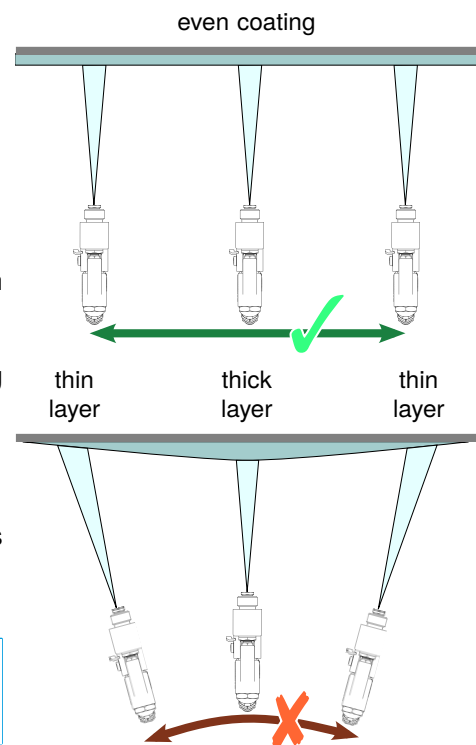

Fig. 17: Gun guidance
- ▶ Ensure an even speed of the movement and guide the spray gun parallel to the coating surface. Weaving with the spray gun leads to an uneven coating (see Fig. 17).